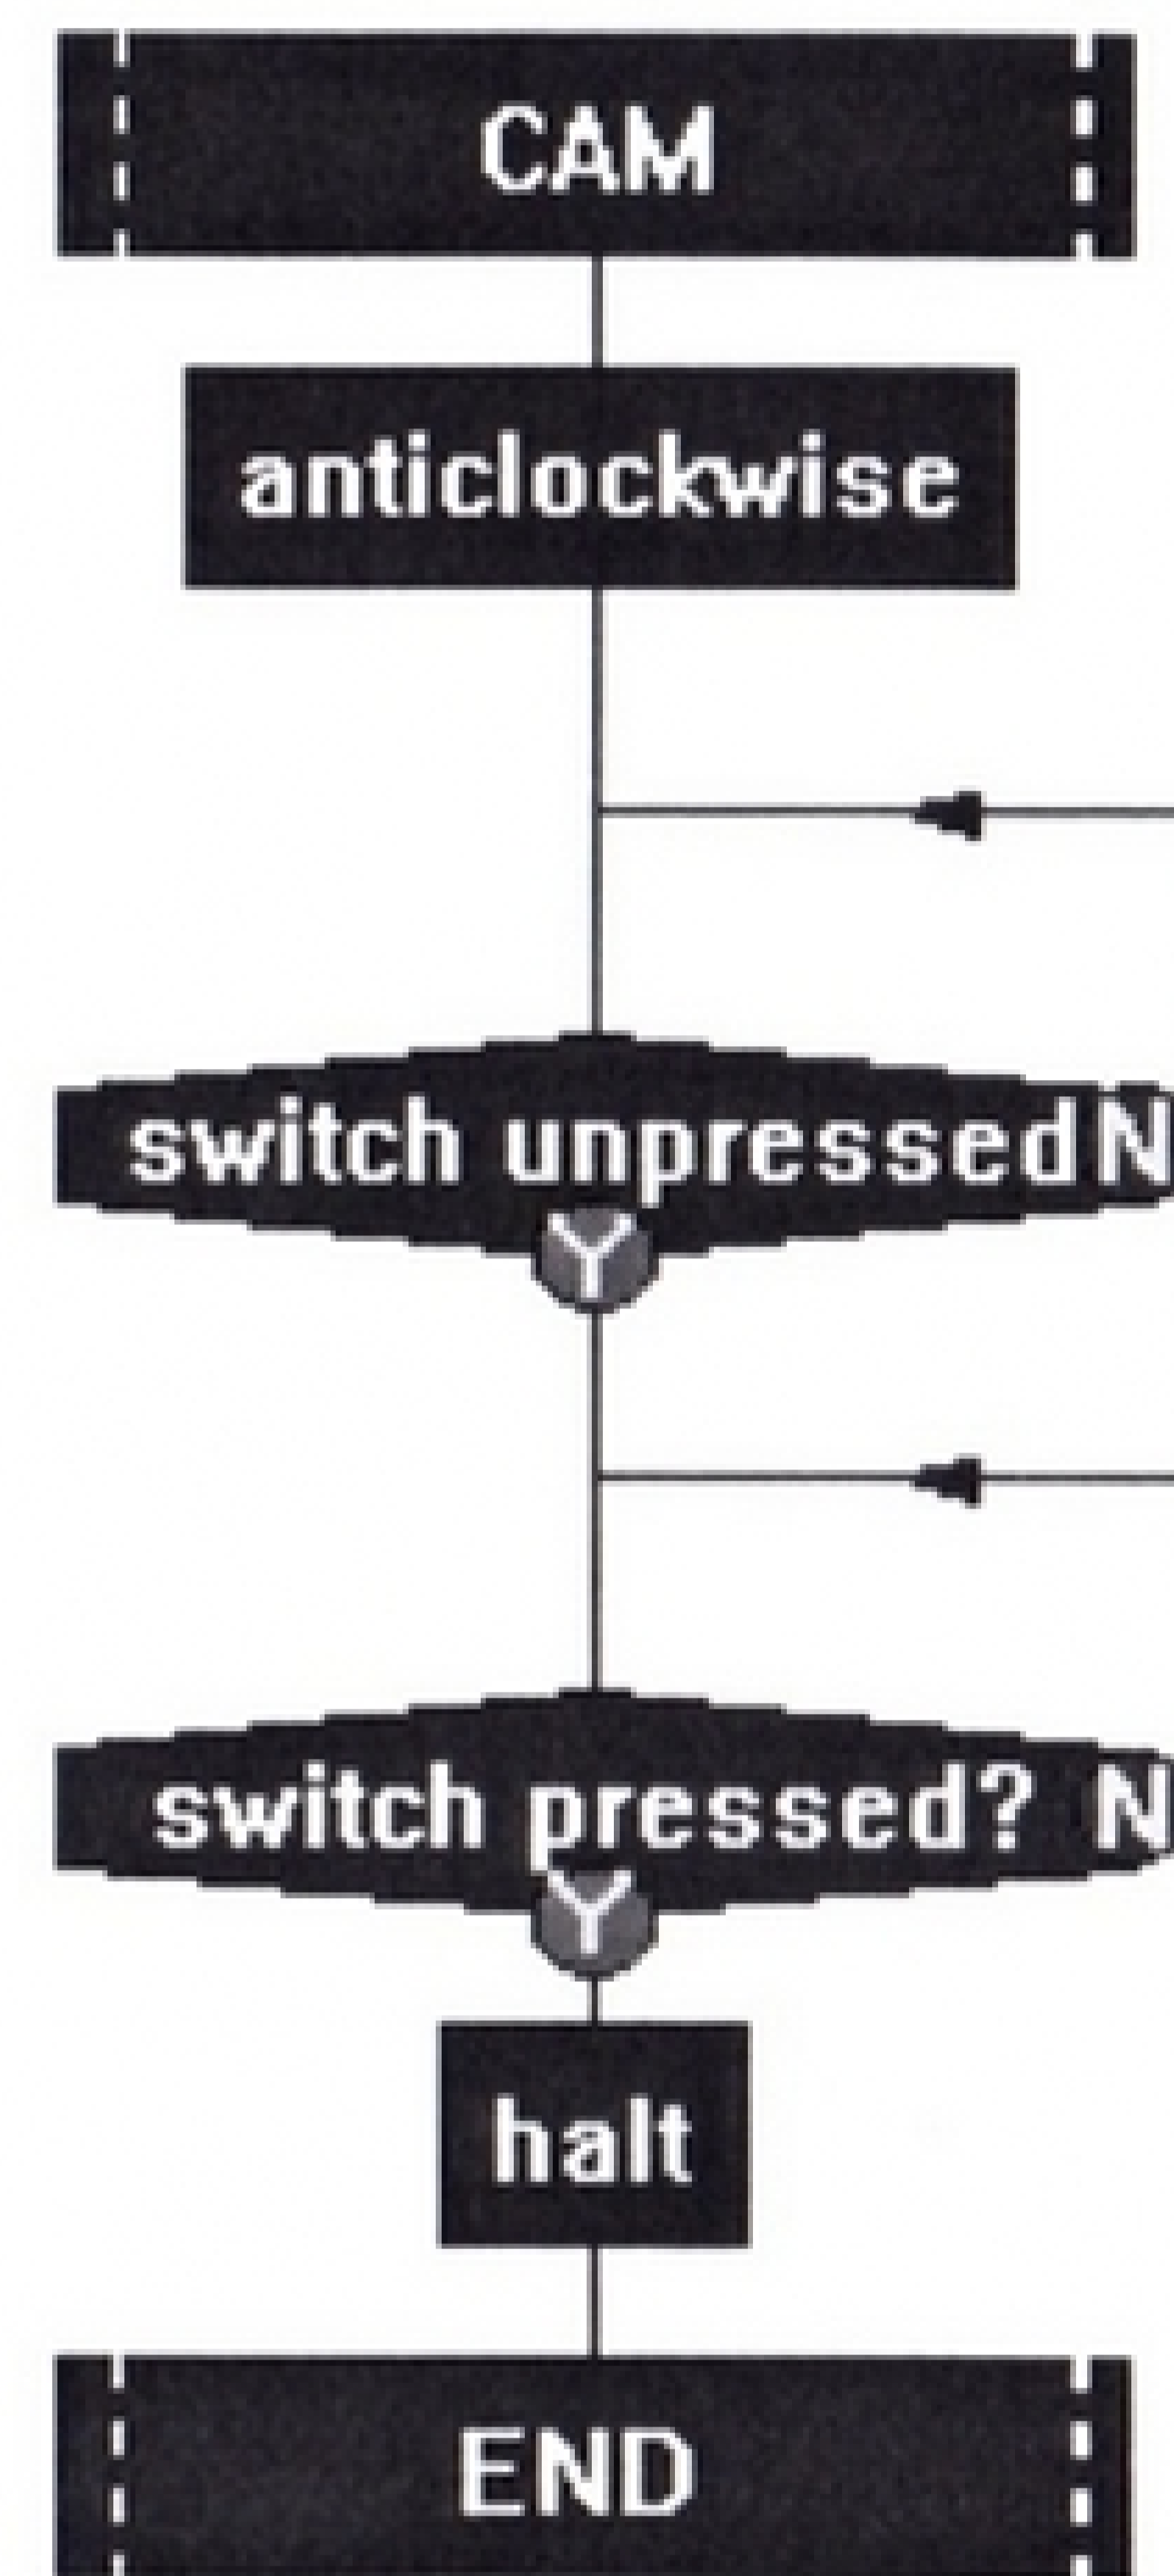

Fig. 3
- 3) Build the macro shown in Fig 3.